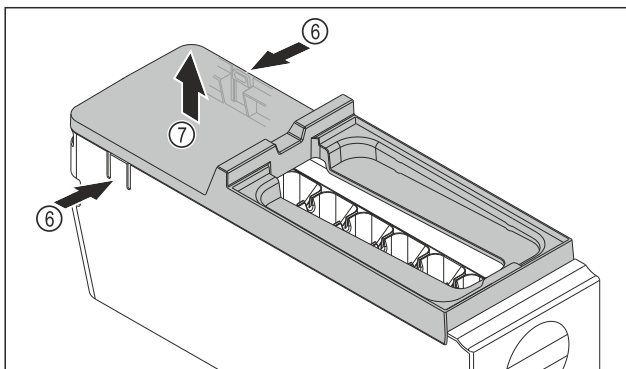

Fig. 137
- ▶ Removing the EasyTwist-Ice body cover: Push the tabs Fig. 137 (6) on both sides of the EasyTwist-Ice body with one hand.
- ▶ Use the other hand to remove the cover Fig. 137 (7) upwards.